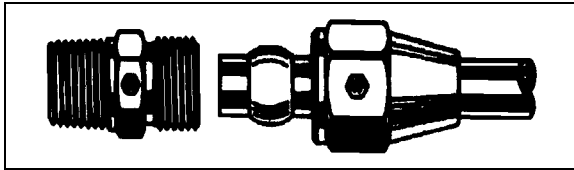

FIGURE 26: HOSE FITTING 12056
**4. AB-type Copper Piping:** Tighten nut hand tight. From that point, tighten with a wrench the number of turns indicated in the chart hereafter (Fig. 26).